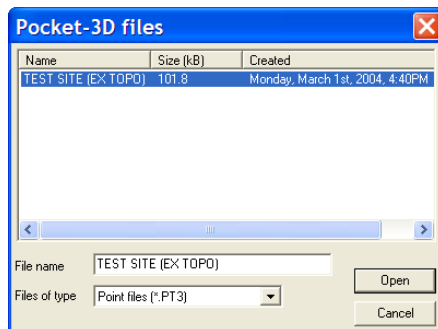

Figure 3-7. Select File and Click Open
2. On the **Pocket-3D files** dialog box, select the file type (\*.pt3) and the desired file, then click **Open** (Figure 3-7).
2. On the **Open** dialog box, select the desired file and click **Open** (Figure 3-7). The AutoCAD entities are imported into 3D-Office.